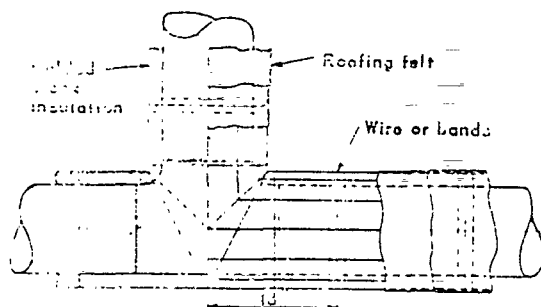

FIGURE 9
7.3 Flanges shall be insulated 15 inches and 15 inches for pipe insulation or 2 inches for pipe insulation. See Figure 9.